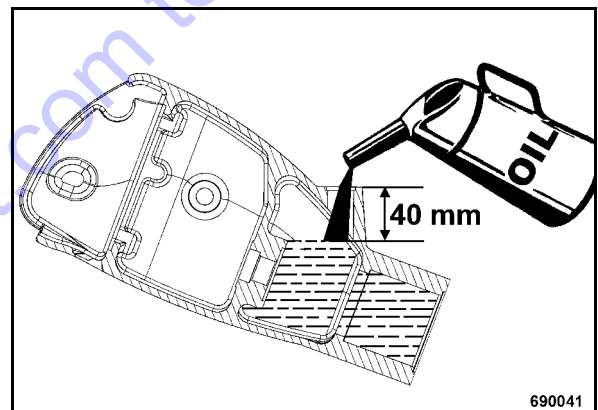

Fig. 70
- Fill in hydraulic oil to approx. 40 mm below the edge of the filler opening (Fig. 70).